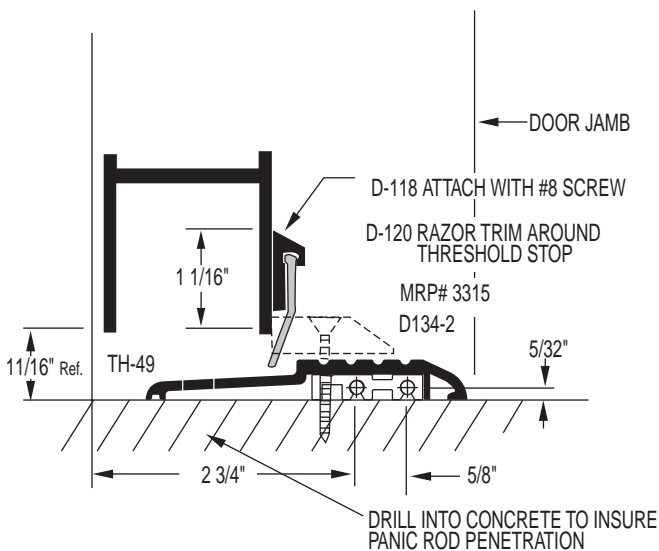

**Figure 3**
1. Determine door type, mark placement as shown in (fig. 3). Place weather-strip on door and mark for 15 degrees cut as shown in (fig. 4). Cut weather strip.